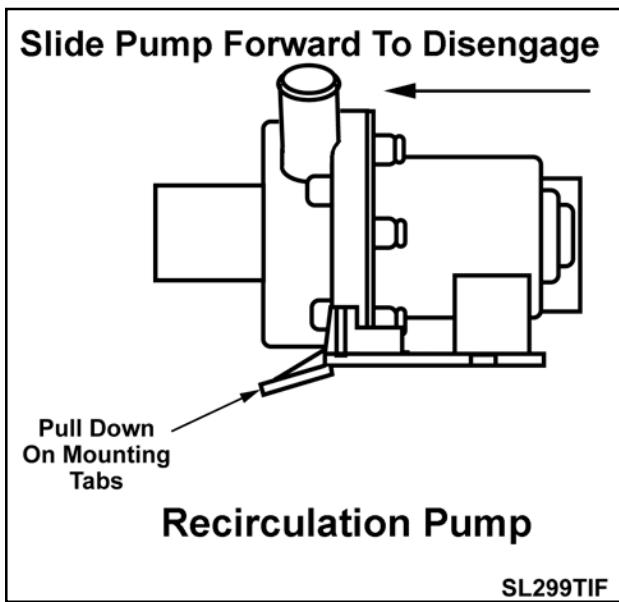

Figure 8-6
6. To remove the pump from the mounting bracket, pull down on the mounting tabs and slide the pump off the mounting bracket. (**See Figure 8-6**)